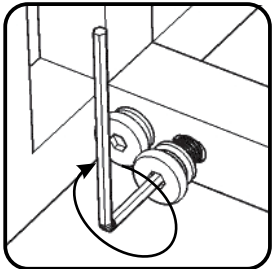

Figure 2
Attach Front Rails (E), (F) and Back Rails (G), (H) to Side Frame (L) with Flat Washers, Spring Washers and Head Cap Bolts, tightening bolts only halfway. (See Figure 2)